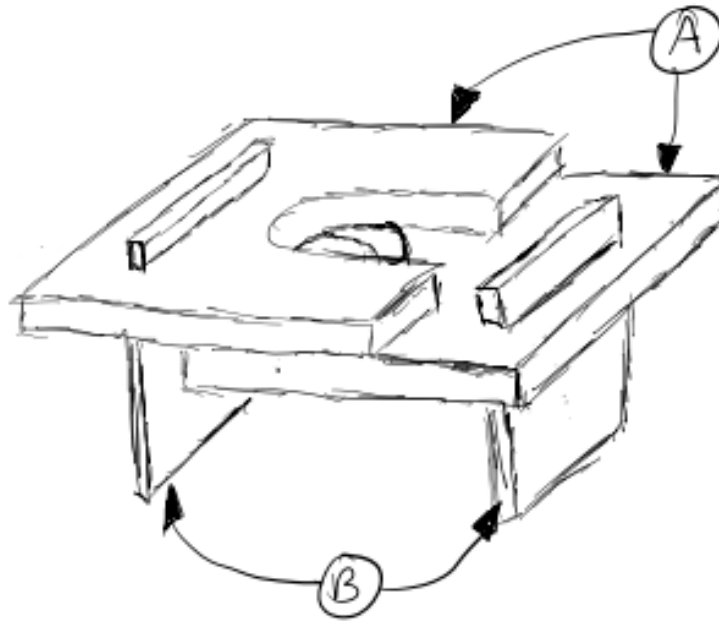

Figure 12: Vertical Mount Stabilizer
5. For the red shaded components, wrap each part A around the 3D printed component stem, as shown in Figure 2 and Figure 12. Then glue the two part A components together once already surrounding the 3D printed component. Stick the B components through the slots in A.